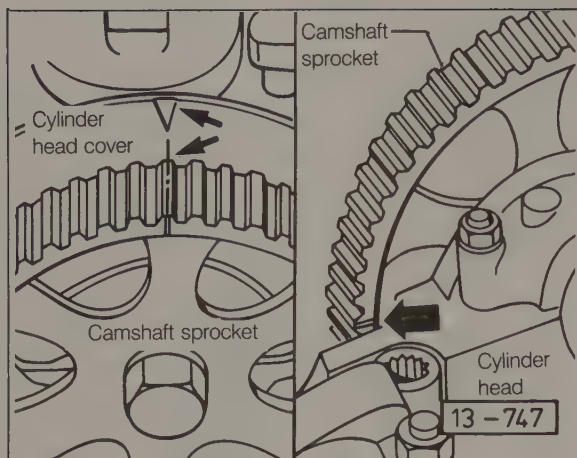
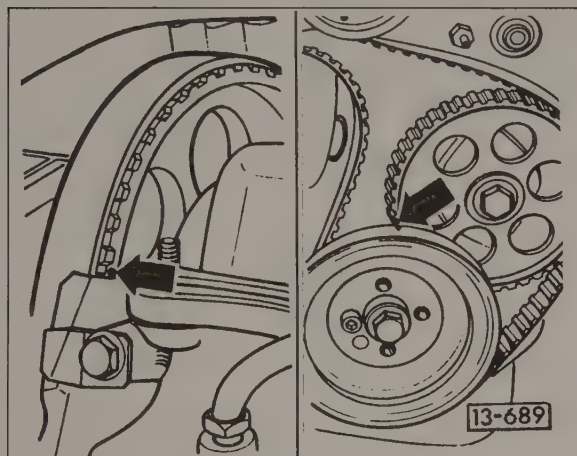
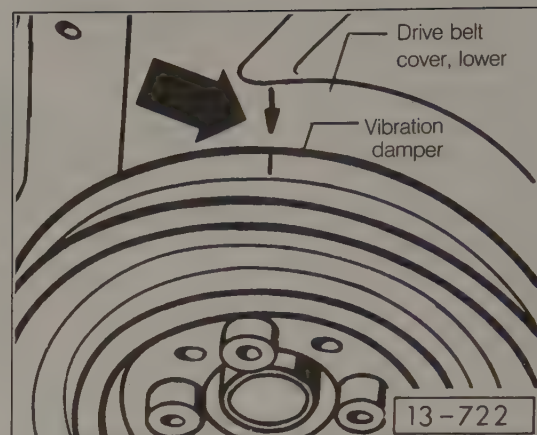

Fig. 4-2. Camshaft timing marks on 16-valve engine.
Fig. 4-3. Camshaft timing marks (arrows) for all except 16-valve engines.
Fig. 4-4. Crankshaft timing marks on vibration damper and lower drive belt cover on 16-valve engines.
1. Use a socket wrench to rotate the camshaft sprocket by hand until the timing mark is aligned. The timing marks for 16-valve engines are shown in Fig. 4-2. The timing mark for all other engines is shown in Fig. 4-3.
3. Use a socket to rotate the crankshaft and the intermediate shaft by hand until the timing marks line up. The timing marks for the crankshaft on 16-valve engines are shown in Fig. 4-4. The timing marks for the crankshaft and the intermediate shaft on all other engines are shown in Fig. 4-3, above.